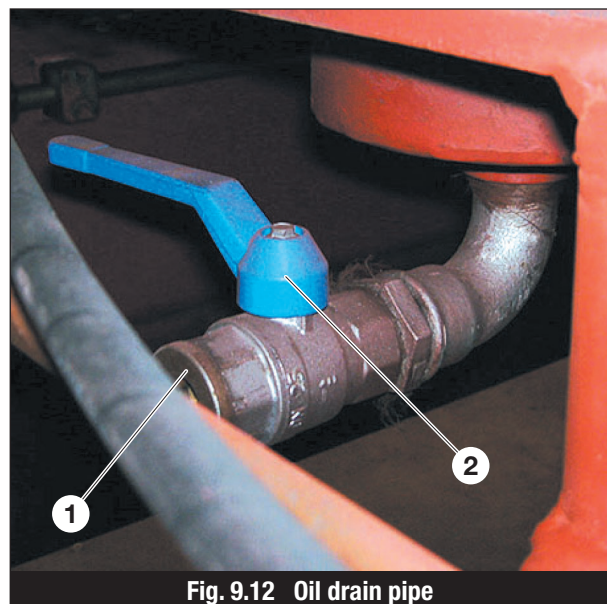

Fig. 9.12 Oil drain pipe
1. Remove the drain plug from the drain cock (Item 1, Fig. 9.12).
4. Open the ball valve (Item 2, Fig. 9.12) and allow oil to drain into the container.
6. Close the ball valve (Item 2, Fig. 9.12) and watch the oil emerging from the drain hole.